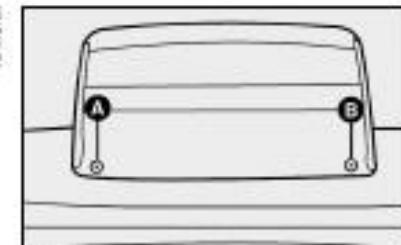

fig. 54
1) com a tampa traseira aberta, retirar os parafusos **A**-fig. 54 e remover o brake-light;